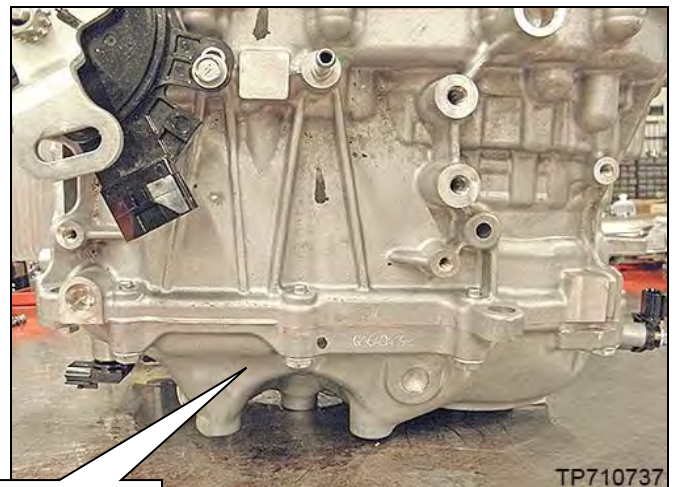

Figure 12P
6. Temporarily install two (2) original bolts hand tight to hold the sub-assembly to the CVT case.
- Leave the sub-assembly side cover facing down as shown in Figure 12P.